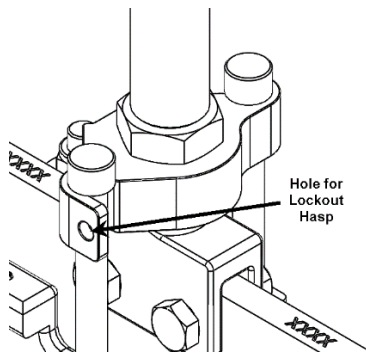

Figure 3 – Lockout Collar Hasp Location
3. When gate lockout is required, move the gate to the required position and rotate the lockout collar until it touches the shaft under the lockout bolt head. Insert a lockout hasp (user provided) into one of the holes near the lockout collar tip (see Figure 3) and then add the necessary lock(s) as per the user's requirements.